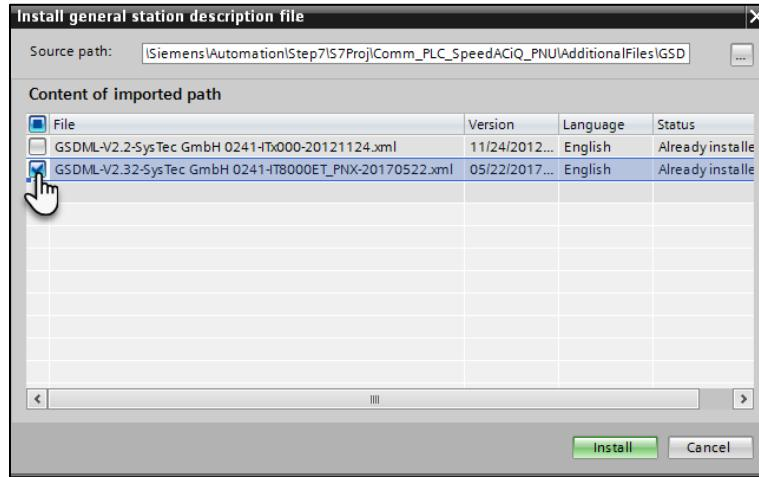

Figure 41: GSD File Install Screen
- Follow the steps to install the GSD file in TIA Portal project by running the **Install General Station Description** wizards from the **Option** tab on your software. The install screen should look like the one shown in **Figure 41**.